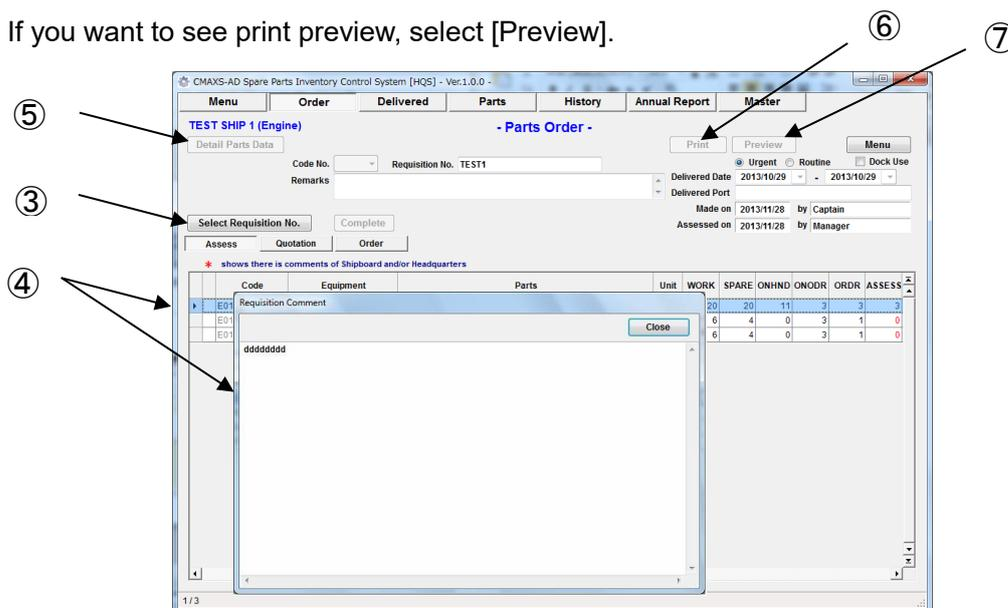

Fig.7-2 Order Screen
- (2) “Order Screen” (Fig.7-2) is displayed.
- (3) If you want to make Quotation Sheet from other import data, select [Requisition No.].
- (4) If there is a comment from shipboard, [\*] is shown on left side portion. Then select it, Requisition Comment Screen is displayed and it can be changed.